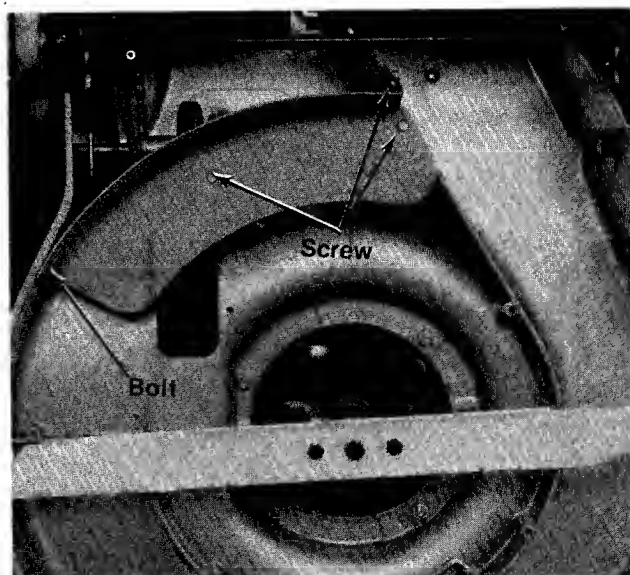

FIGURE 22
4. Place the mower in an upright position. (See figure 22.)
5. Take out the three screws and carriage bolt holding the shield in place. (See figure 22.)